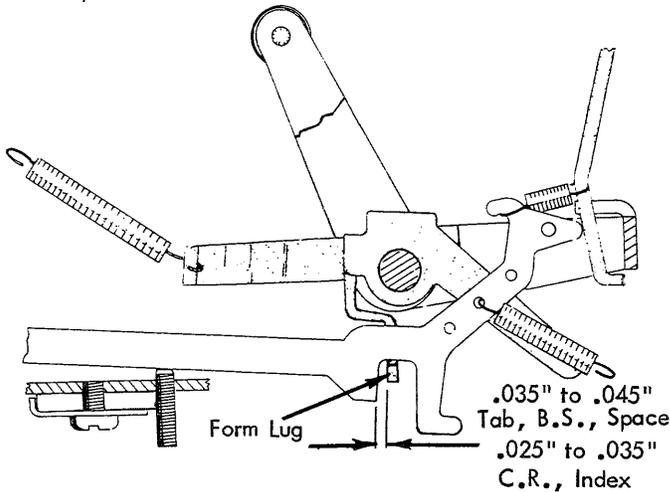

FIGURE 119. Clutch Release Arms Adjustment
7. Clutch Release Arm (Fig. 119) - The lug at the bottom of each clutch release arm should be formed so that it clears the interposer lug by  $.025''$  to  $.035''$  on Carrier Return, Index and  $.035''$  to  $.045''$  on Tab, Backspace, and Spacebar.